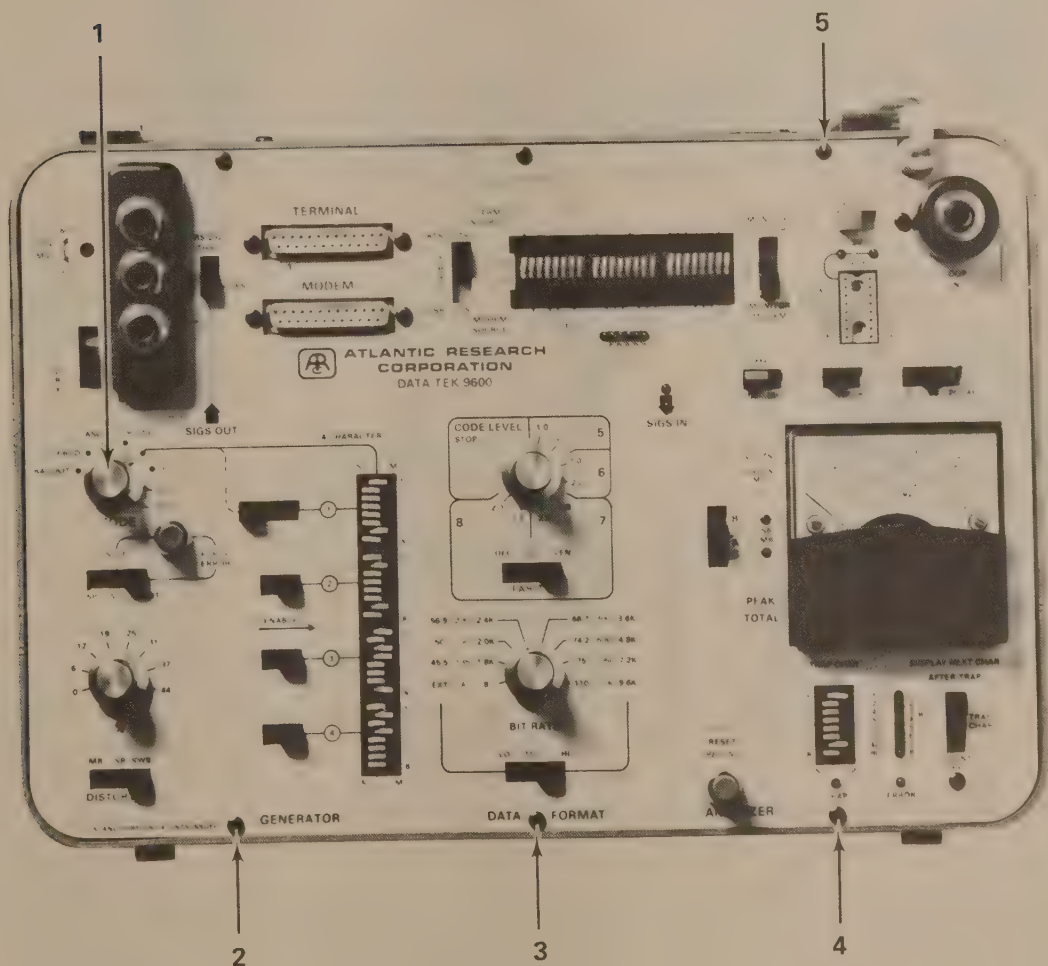

Fig. 5-1—Panel Zones.
5.01 This section of the manual provides a description of operating controls, and shows the positions for switches, cables, jumpers and readings for typical applications. This information is contained in Tables 5-1 through 5-7. Controls associated with these tables are shown in Figures 5-1 through 5-7.
PANEL ZONES (Refer to Figure 5-1)